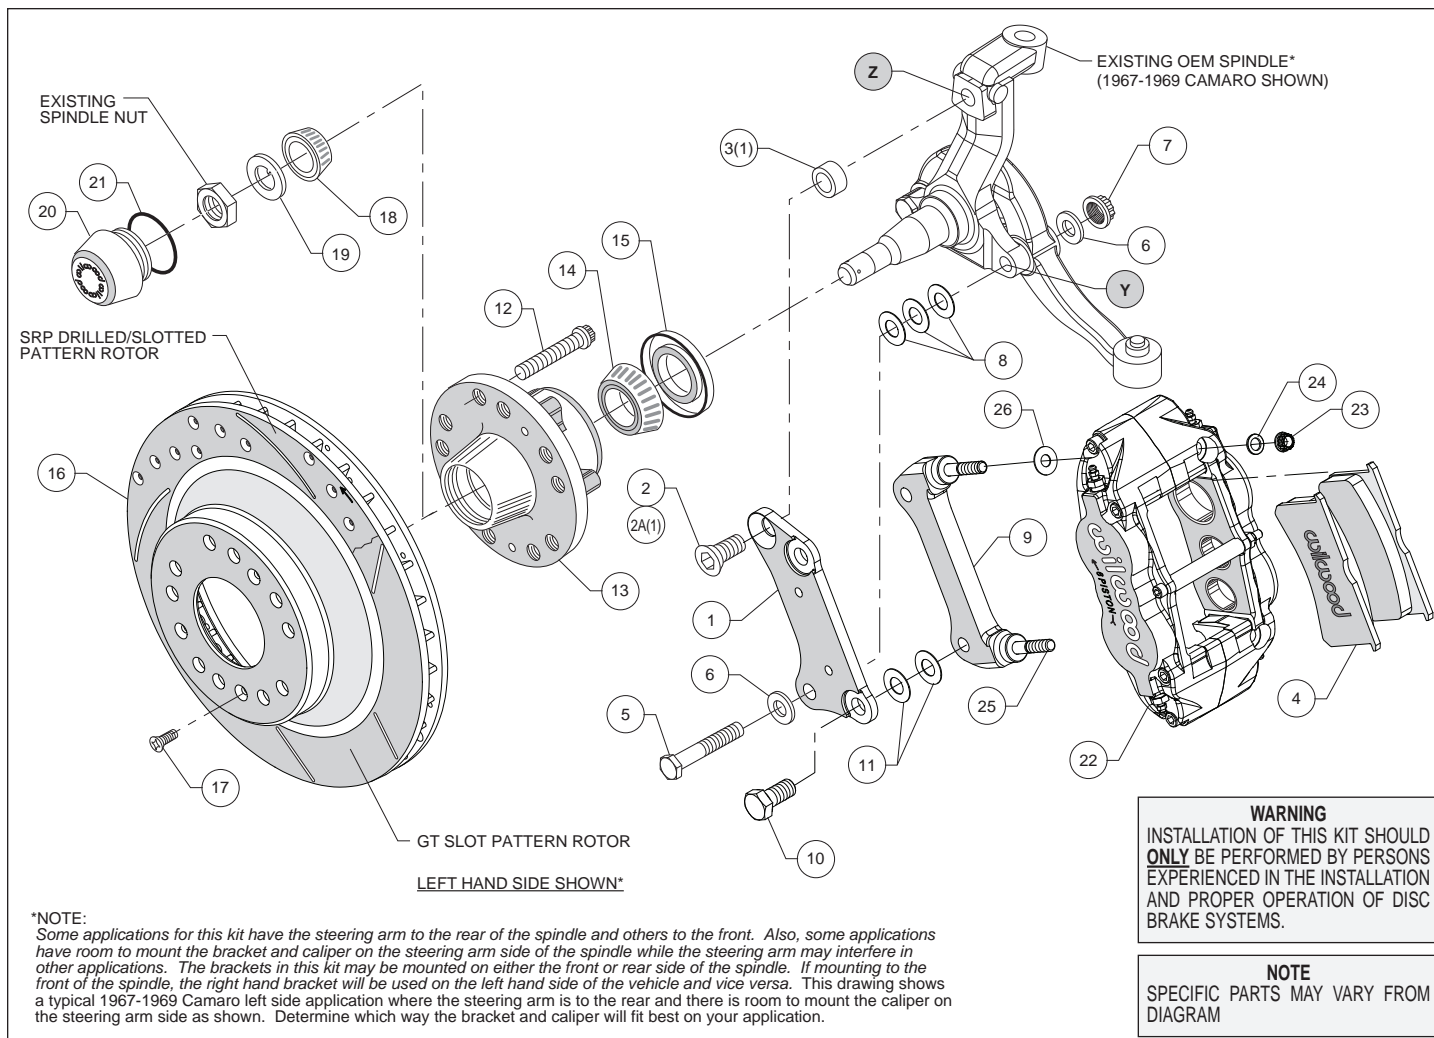
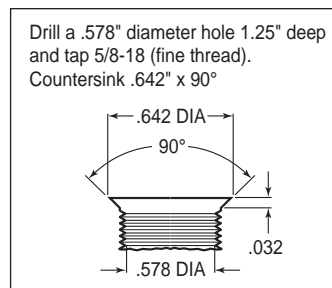

Figure 1. Typical Installation Configuration
Figure 3. Drill and Tap Detail
**Assembly Instructions** (numbers in parenthesis refer to the parts list on the preceding page, and Figure 1):
•**NOTE:** Some applications for this kit have the steering arm to the rear of the spindle and others to the front. Also, some applications have room to mount the bracket and caliper on the steering arm side of the spindle while the steering arm may interfere in other applications. The brackets in this kit may be mounted on either the front or rear side of the spindle. If mounting to the front of the spindle, the right hand bracket will be used on the left hand side of the vehicle and vice versa. Figure 1 shows a typical 1967-1969 Camaro left side application where the steering arm is to the rear and there is room to mount the caliper on the steering arm side as shown. Determine which way the bracket and caliper will fit best on your application.
•**NOTE:** Some spindles in this year range may require the following modifications (reference Figure 1 and Figure 3): Top anchor pin hole (Z) must be drilled and tapped to the dimensions as outlined in Figure 3. The lower bolt hole (Y) in the spindle used to mount the new caliper bracket, and the mating steering arm hole, must be enlarged to .50" by drilling. It is recommended these modifications be performed by a qualified machinist.
•Install wheel studs (12) into the hub (13), Photo 1. Torque to 77 ft-lb. **NOTE:** There are two five lug patterns in the hub (5 x 4.50 and 5 x 4.75). Make sure of the correct hole pattern for the correct wheel application before installing studs into hub.
•Pack the large inner bearing cone (14) with high temperature disc brake bearing grease (available from your local auto parts store) and install into the backside of the hub (13).
•Install the grease seal (15) by pressing into the backside of the hub (13), Photo 2.
•**Disc Brake Spindle Application Only:** Follow the instructions below, but instead use bolt (2A), and spacer (3) in the upper bolt hole location, Figure 1.
•Orient the flat bracket (1) as shown in Figure 1 and Photo 3, and install using bottom bolt (5), washers (6), and nut (7), Figure 1. Initially place three .032" thick shims (8) between the bracket and spindle. Install the upper bolt (2 or 2A). Temporarily tighten bolts. **NOTE:** The bracket must fit squarely against the mounting surfaces on the spindle. Inspect for interference from casting irregularities,
machining ridges, burrs, etc. Temporarily install the new hub/rotor. Check that the bracket is aligned parallel to the rotor, Photo 4. If not, adjust by adding or subtracting shims (8) on the lower bolt between the bracket and spindle, Figure 1. Once the bracket alignment is correct, remove the upper bolt (2 or 2A), apply red *Loctite*® 271 to the bolt threads, and torque to 120 ft-lb. Torque the lower lock nut to 65 ft-lb.
- The radial mount caliper bracket (9) should initially be installed with clean, dry threads on the mounting bolts. Orient the bracket as shown in Figure 1 and Photo 5, and install using bolts (10). Initially place two .029 thick shims (11) on each bolt between the two brackets, Figure 1. Temporarily tighten the mounting bolts. Later, after the caliper alignment has been checked, the mount bolts will be secured using red *Loctite*® 271.
- Final install the hat/rotor (16) onto the hub (13), taking care to align the small countersunk holes in the hat with the small threaded holes in the hub. **NOTE:** The hat must fit flush against the hub face or excessive rotor run out may result. Install three flat head screws (17) through the small holes in the hat (16), Photo 7, and torque to 85 in-lb.
- NOTE:** This kit contains distinct right and left hand calipers that must be mounted in a specific direction, as described below. Lubricate the caliper mounting studs (25) with lightweight oil. Initially place one .035" thick shim (26) on each stud between the caliper and the bracket, as shown in Figure 1 and Photo 8. Mount the caliper (22) onto the bracket (9) using lock nuts (23) and washers (24), Figure 1. Ensure that the caliper is mounted so the largest pistons are at the rotor exit end of the caliper, in relation to the direction of rotor rotation. Temporarily tighten the lock nuts. The rotor should be centered in the caliper, Photo 9. If not, adjust by adding or subtracting shims (11) between the flat bracket (1) and the caliper bracket (9). Always use the same amount of shims on each of the two mounting bolts. Once the caliper alignment is correct, remove the bracket mounting bolts one at a time, apply red *Loctite*® 271 to the threads, and torque to 77 ft-lb.